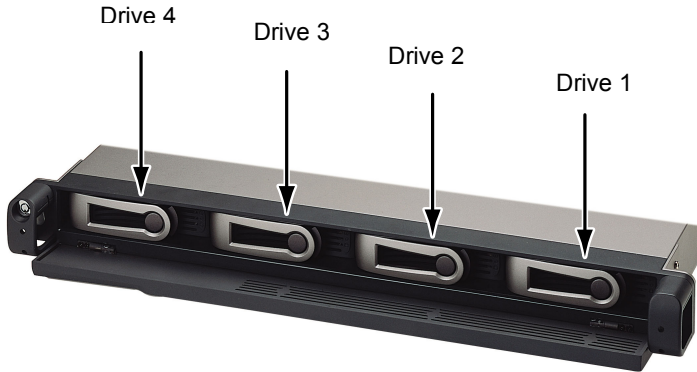

Figure 5. Drive Numbers
5. Attach the Drive Carrier power cable to the hard drive (see Figure 5).